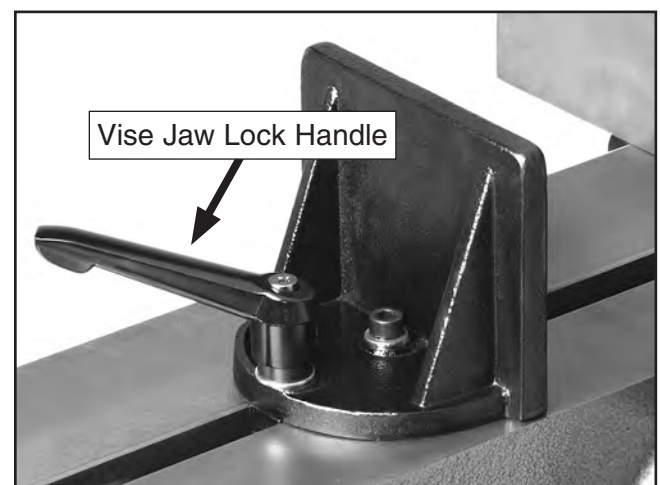

Figure 16. Front vise jaw lock handle.
3. After the final angle has been chosen, loosen the lock handle in **Figure 16** on the opposite jaw so the jaw can float, and match the angle of the workpiece and rear jaw.